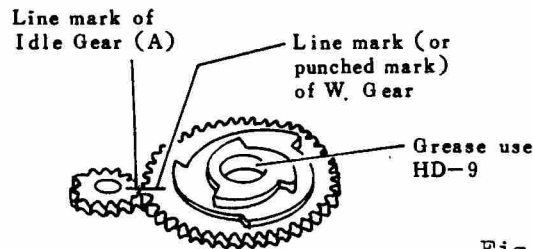

Fig 31
- d) Confront drawn line mark of Idle Gear (A) with drawn line mark (or punched mark) of W. Gear (159625), and set W. Gear as shown in (Fig 31)